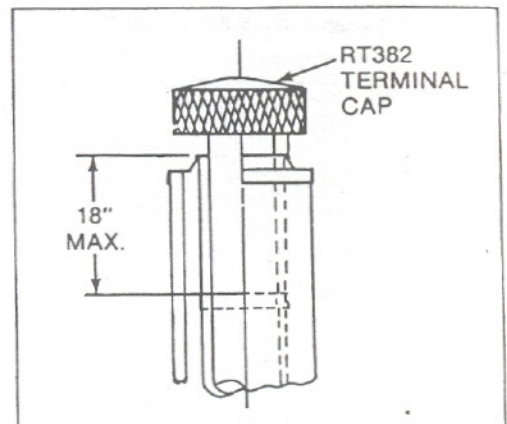

Figure 19
2. Install the Chimney Sections up through the chase. When using a Round Terminal Cap (RT384), the last section of Pipe must extend above the Chase Top to allow installation of the Storm Collar and Terminal Cap. For installations utilizing a Telescoping Round Terminal Cap (RT382) or Telescoping Square Terminal Cap (ST376), the last Chimney Section must be below the top of the Chase Top, but not more than 18" below the Chase Top. See Figure 19.